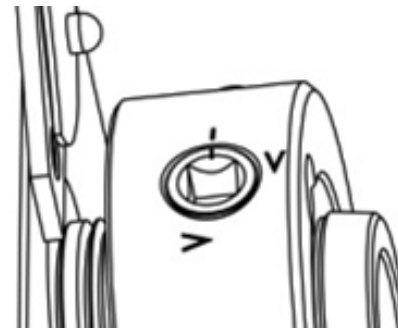

Figure 8 Spindle components
3. Loosen the cam-locks by turning the key Counter clockwise approximately one-third of a turn until the mark on the cam-lock aligns with the single mark on the spindle nose in Figure 8.